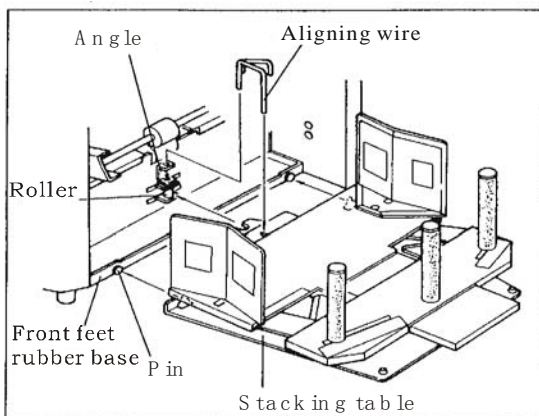

Figure 3
(3) Attach “stacking table” and aligning wire” (see Figure 3)